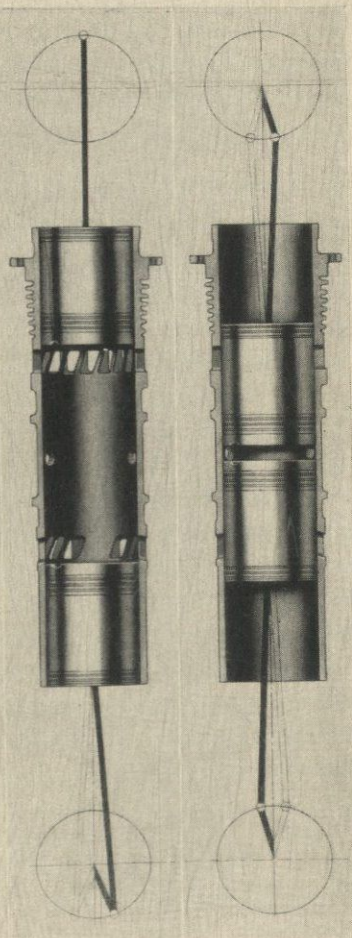

Fig. 19
45. The right-hand view in Fig. 19 shows the two pistons nearest together. The left-hand view shows the two pistons farthest separated. When the pistons are closest together, the air that was trapped in the cylinder between them is compressed to a pressure of about 600 pounds. Fuel is injected into the space between the two piston heads when the heads come closest together. The compressed air is at a sufficiently high temperature to ignite the fuel as it is sprayed into the cylinder. The resulting explosion forces the pistons away from each other on their power strokes. As each piston nears the end of its stroke, the bottom piston uncovers exhaust ports in the cylinder wall and, a moment later, the upper piston uncovers air admission ports in the wall. An air blower forces fresh air through the admission ports to sweep the exhaust gases out of the cylinder and furnish the charge of fresh air which is to be compressed during the return strokes of the pistons.